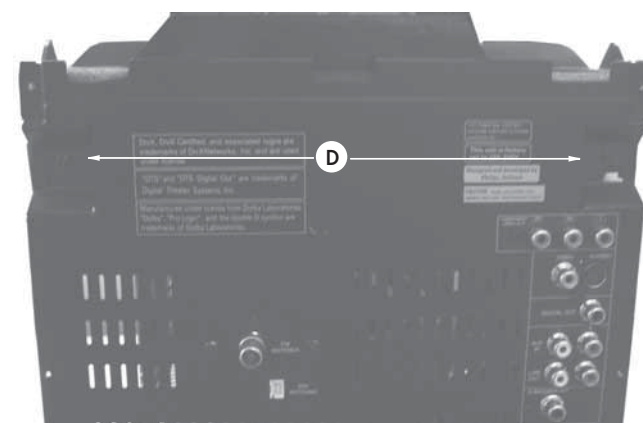

Figure 6
- 5) Loosen the 2 screws at back of DVD loader as Figure 6.